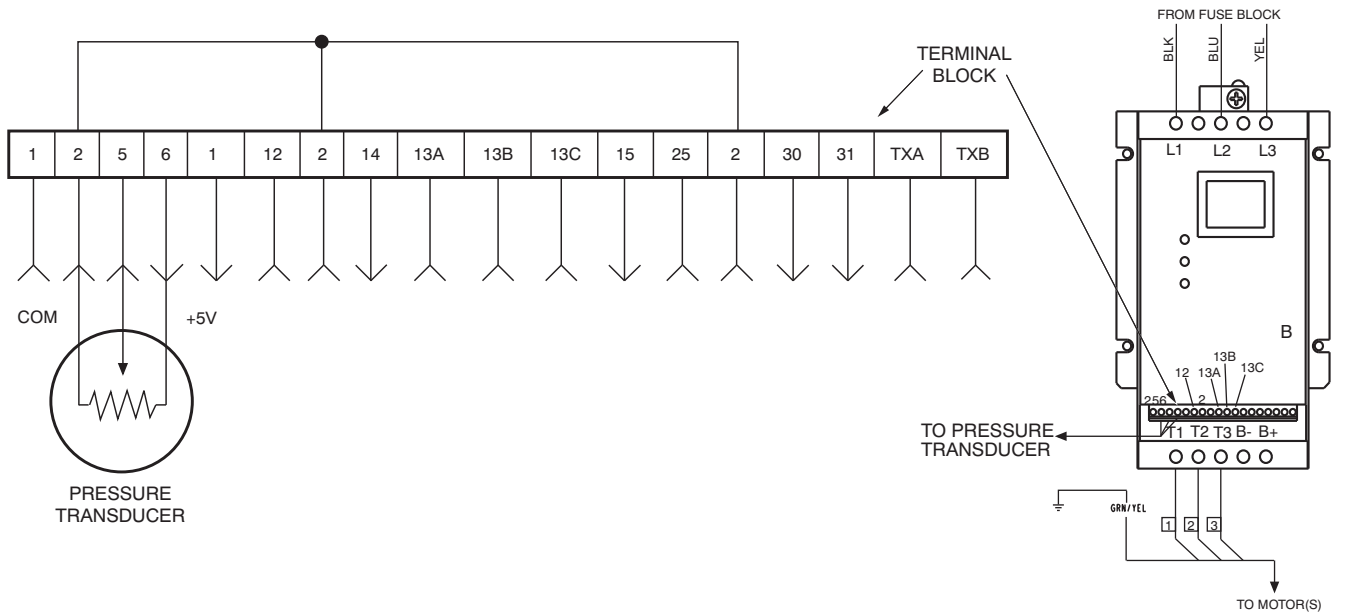

Fig. 22 - MM-V Bypass Conns PT Conns
4. Connect the resistor-wire assembly at terminals 5 and 6. See Fig. 22.
When the charge check/adjustment procedure is complete, restore the Motormaster V function by disconnecting unit power, then reversing steps 5 through 2 above. See Fig. 22